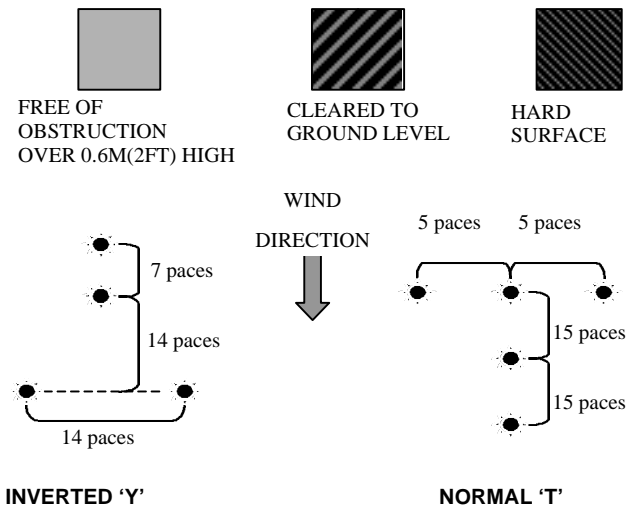

Figure 8-11: Landing Aid Dimensions - "Y" & "T"
- a. when the primary (unaided) methods ("T" or inverted "Y") of marking the LS are used (see Figure 8-11) the maximum obstruction angle on the approach and exit paths of obstacles is four degrees (or 1 in 16);
15. **Methods of Marking.** Some minimal methods of marking the LS by day and ni are illustrated in Figure 8-11.
- b. The two recommended tac landing light systems are the "T" and the "inverted Y" (see Figure 8-11). Both systems provide the visual cues required to execute a safe approach to a tac LS. Other systems requiring fewer lights may be used as an emergency system as sits dictate; however, no less than two should ever be used. Viewing of one light causes an apparent motion of the light and results in false interpretation by the aircrew. Also important is the separation between the lights. If only two lights are used, a minimum separation of 5 m (paces) is reqr.